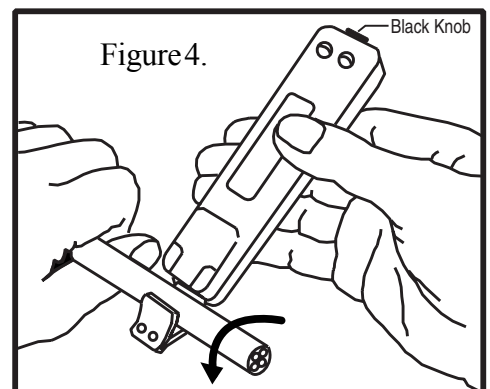

Figure 4.
- d. Rotate the stripper around the cable with the black knob turning toward opening; as shown in Figure 4.